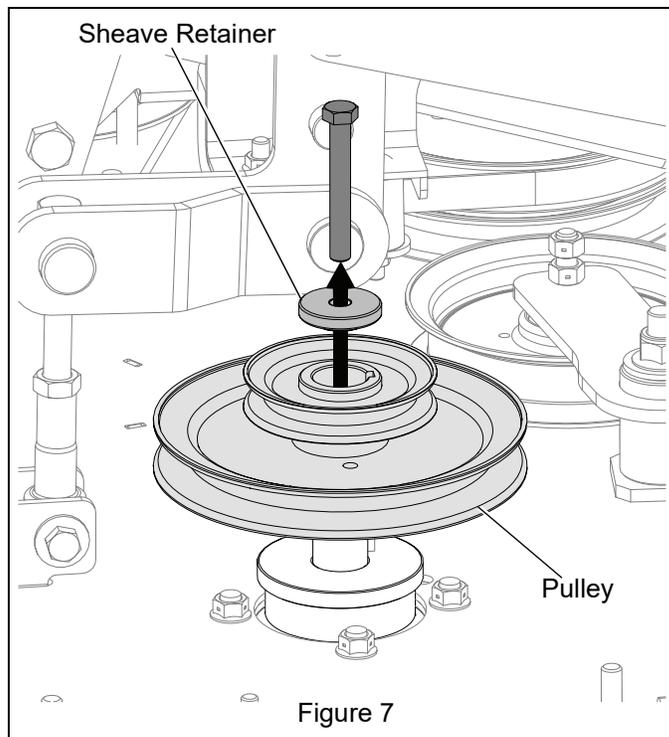

Figure 7
4. Remove 3/8" hex bolt and sheave retainer from top of spindle. Remove pulley. Dispose of pulley and hex bolt. Retain sheave retainer. See Figure 7.